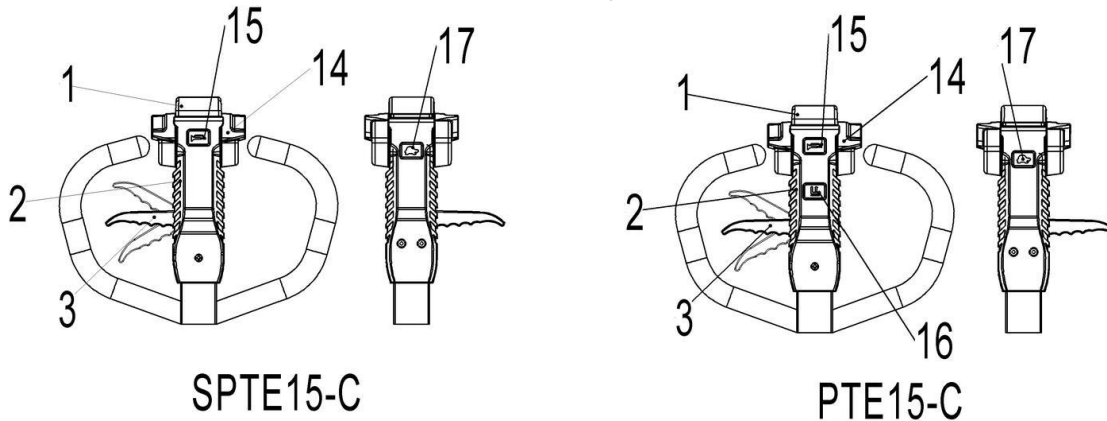
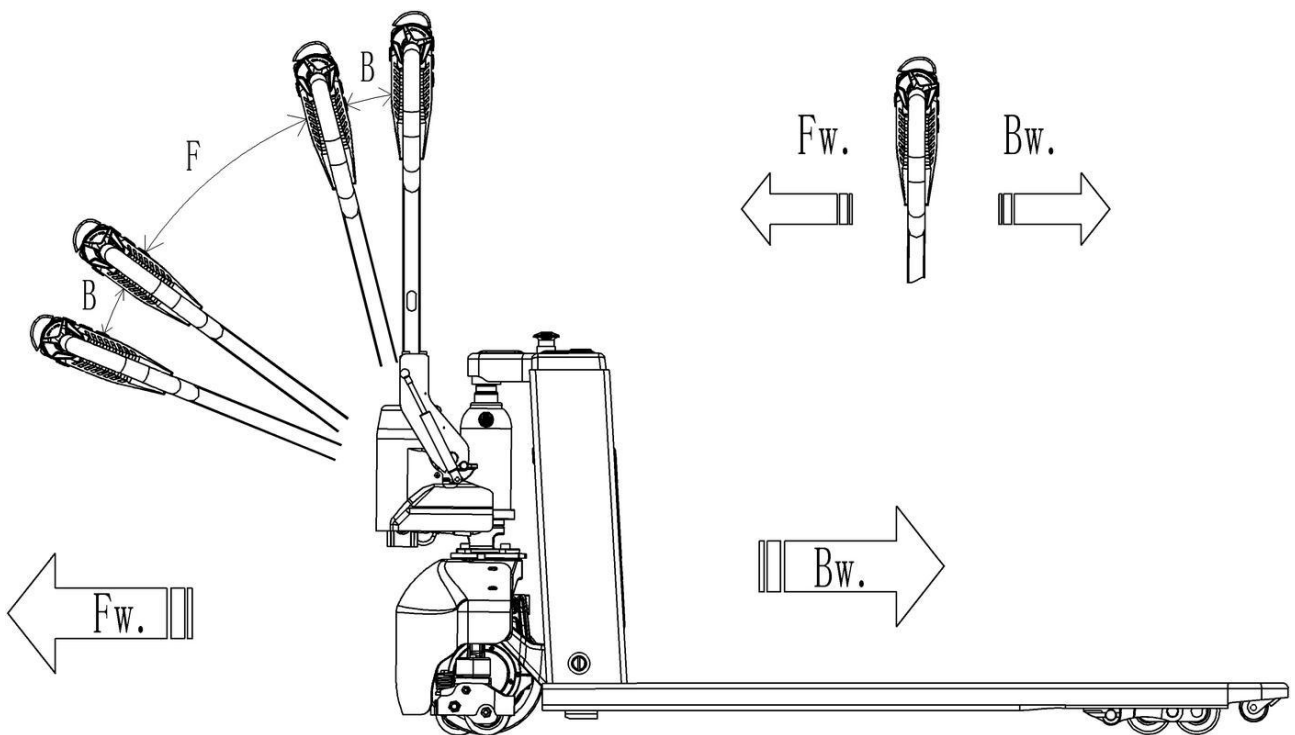

Fig.7: Tiller operating controls
Fig. 9: Operating direction
Press the horn button (Fig.7,15) to activate the audible warning signal.
Travel with the lowered forks fully underneath the pallet and move the finger tip control (3) to the lifting position. Press the tiller of SPTE15-C to lift the loads. Press the lifting button (Fig. 7, 16) until you reached the desired lifting height.
After starting the truck by activation from Pin-code panel, move the tiller to the operating zone ('F', Fig.9).
Turn the accelerator button to the desired direction forwards 'Fw.' or backwards Bw.'(Fig. 9). Control the travelling speed by moving the accelerator button (Fig.7, 14) carefully until you reached the desired speed.
With tiller in its vertical position, press turtle button  (Fig.7, 17) and hold still, move the accelerator button to activate driving function and travel slowly, which is suitable for narrow space operation.